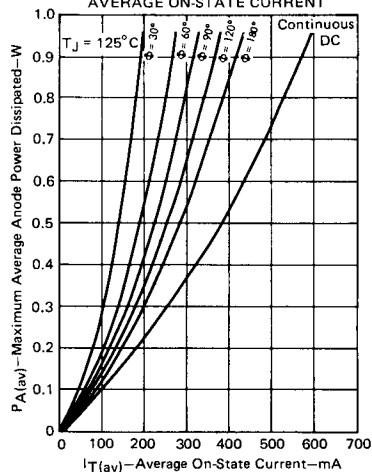

FIGURE 3
1. Determine worst-case power dissipation from Figure 3.
$P_{A(av)}$ = Average anode power dissipation (see Figure 3 for worst-case values)
Solution: From Figure 3, $P_{A(av)} = 0.84\text{ W}$ for 0.4 A with 180° conduction angle. Using the equation of step 2 above: